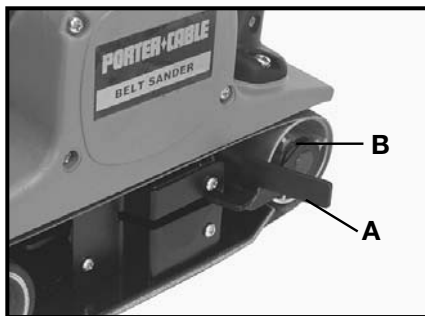

Fig. 1
2. Pull the lever (A) Fig. 1 out toward the front of the machine to retract the idler pulley (B) and release the tension on the abrasive belt.
- Engage the front pulley by pushing the lever (A) Fig. 1 back to its original position.